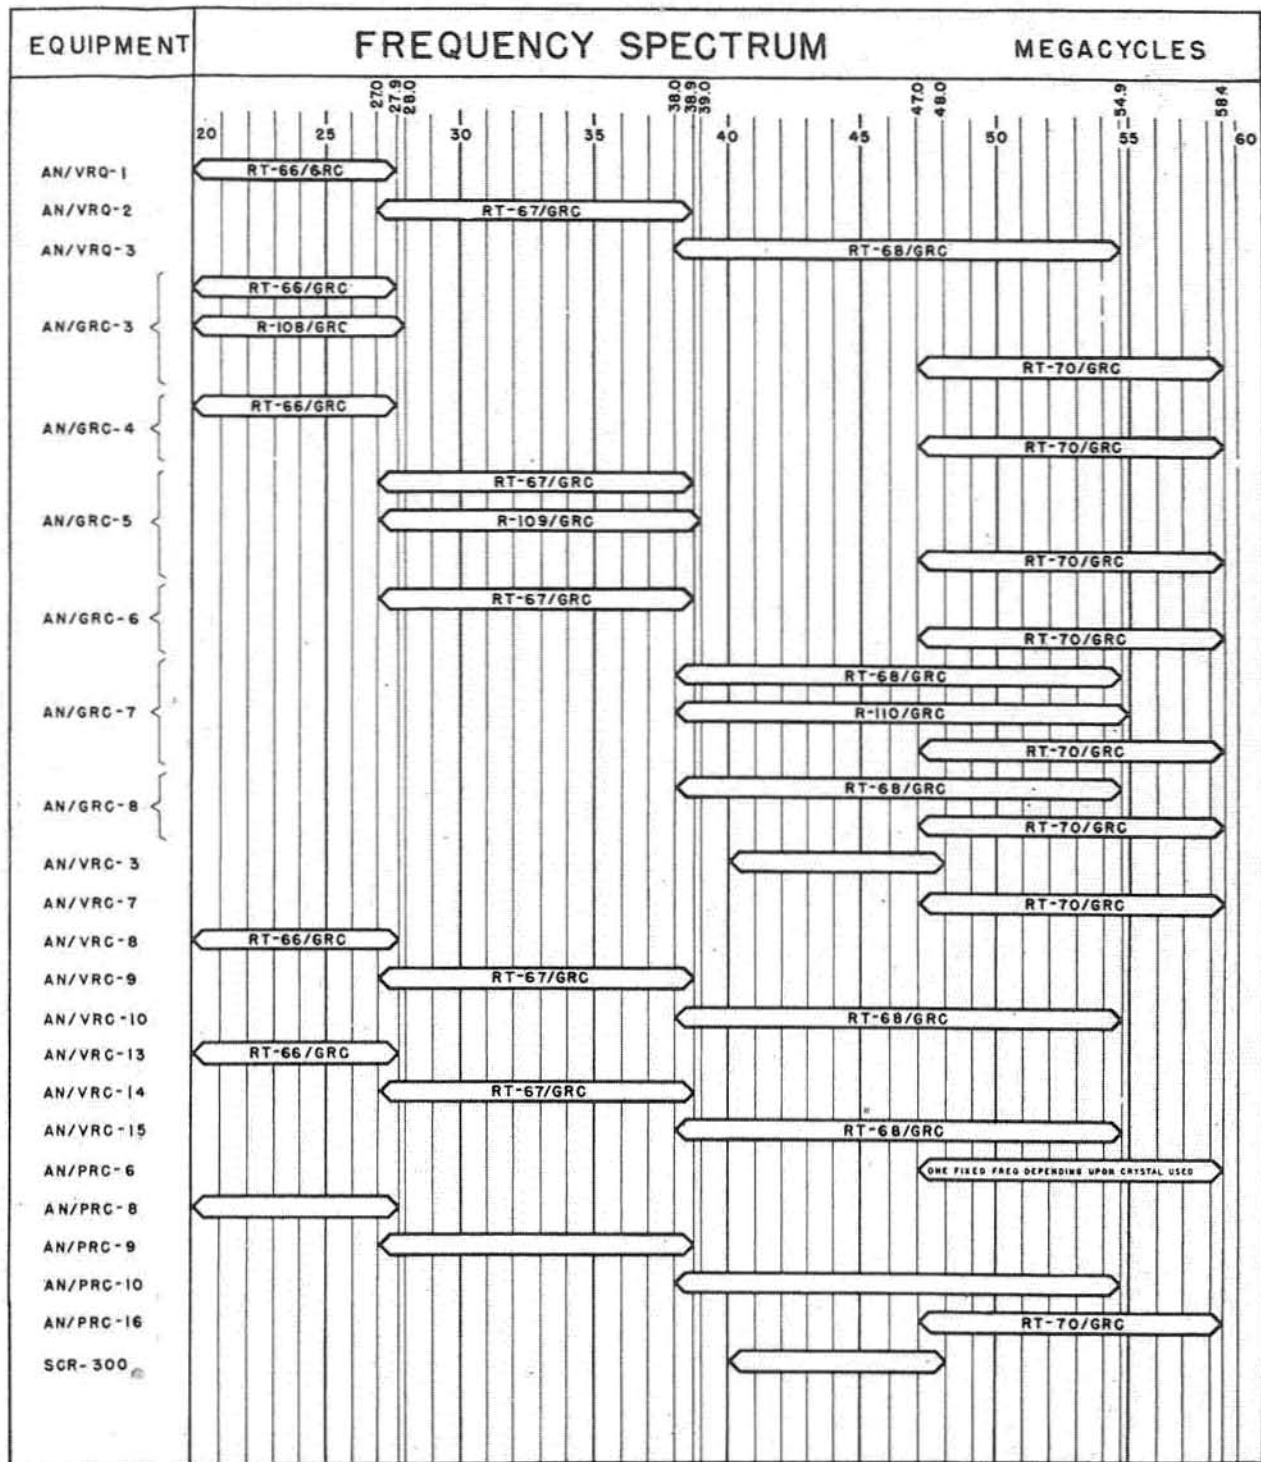

Figure 2. Frequency spectrum chart.
a. Radio Sets AN/GRC-3, -4, -5, -6, -7, and -8 provide f-m (frequency-modulated) radio-telephone facilities within the frequency range of 20.0 to 54.9 mc (megacycles). The specific frequency ranges of each set and of other radio equipment with which the sets can communicate are indicated in the frequency spectrum chart (fig. 2). As listed on the chart, the frequency coverage of each radio set includes two bands. One band is covered by a Set 1 receiver-transmitter (Receiver-Transmitter RT-66/GRC, RT-67/GRC, or RT-68/GRC); the other band is covered by the Set 2 receiver-transmitter (Receiver-Transmitter RT-70/GRC). In Radio Sets AN/GRC-3, -5, and -7 the coverage of the Set 1 receiver-transmitter is duplicated by auxiliary receivers, Radio Receiver R-108/GRC, R-109/GRC, and R-110/GRC, respectively.